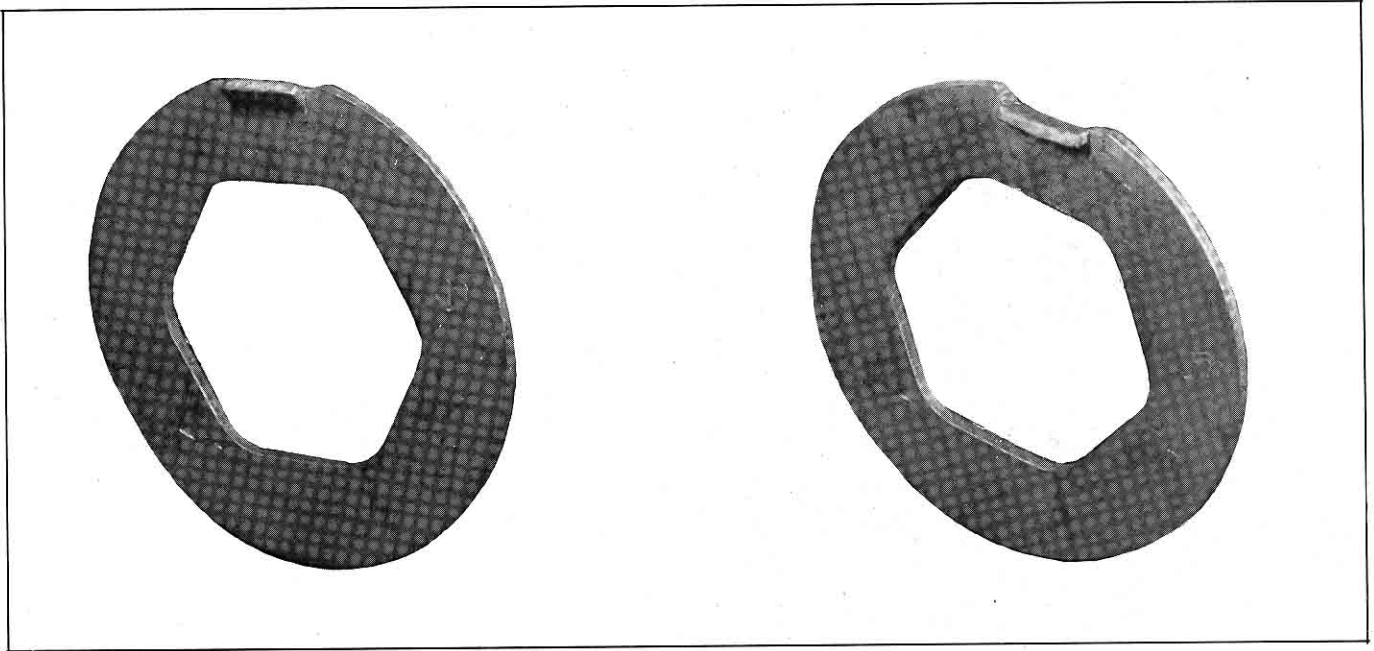

Figure 22 — Comparison of a stock washer and a washer with the desired 90° bend.
5. Bend tang of counter gear thrust washer to approximately 90° without cracking tang to prevent rotation of washer against case. (Figure 22, page 4-12)